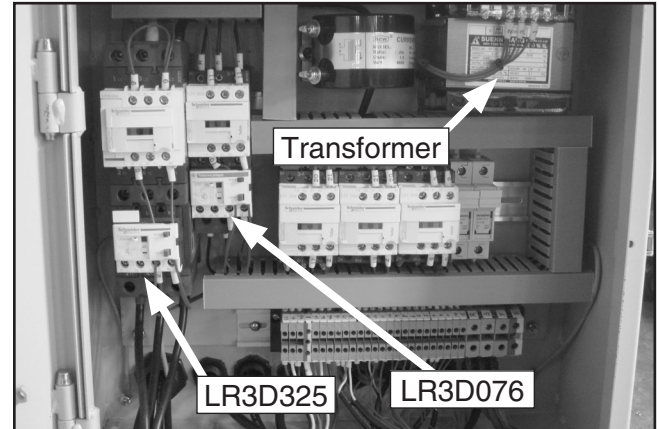

Figure 8. Overload relay.
4. Remove the LR3D340 overload relay (**Figure 8**), and replace it with an LR3D325 (17-25A) type, with the dial set to 18A.
5. Remove the LR3D086 overload relay (**Figure 8**), and replace it with an LR3D076 (1.6-2.5A) type, with the dial set to 1.7A.